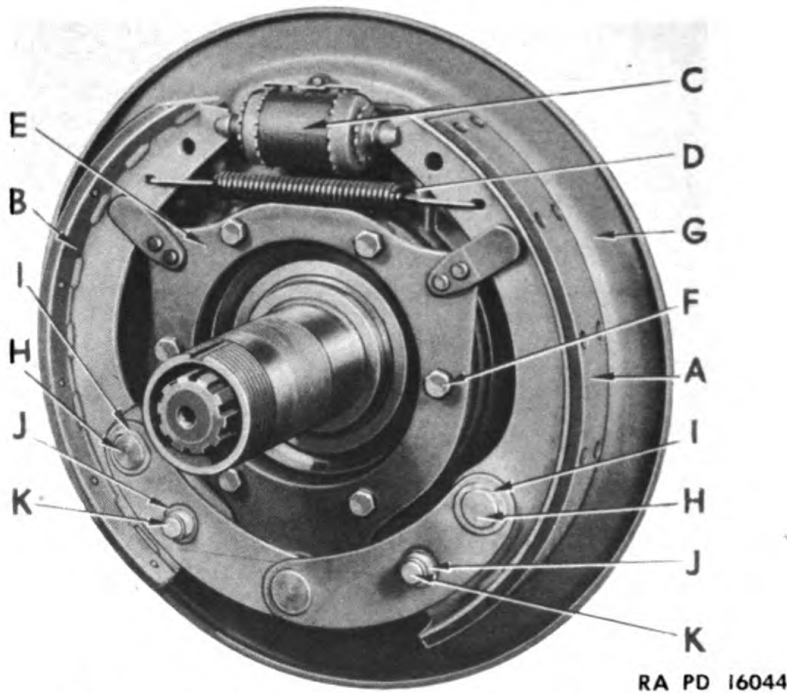

Figure 61—Front Brakes (L.H. Shown)
a. Instructions in this paragraph include replacement of all component parts of front brake assembly. If only necessary to replace specific parts follow instructions outlined as follows (Fig. 61).